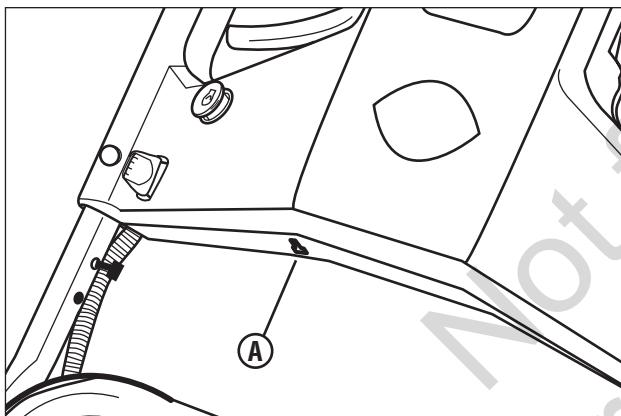

Figure 11: Battery charge port
1. Using the supplied charger, plug the charger connector into the battery charge port (**A**, **Figure 11**). Plug the charger into a wall outlet and charge the battery for 12-24 hours. (Longer periods will not damage the battery.)